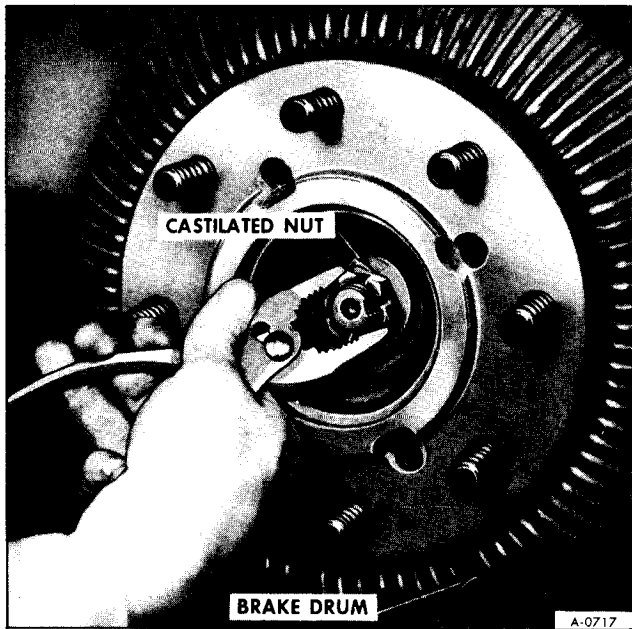

Figure 9—Removing Castillated Nut
4. Remove cotter pin and castellated nut from hub as shown in Figure 9.